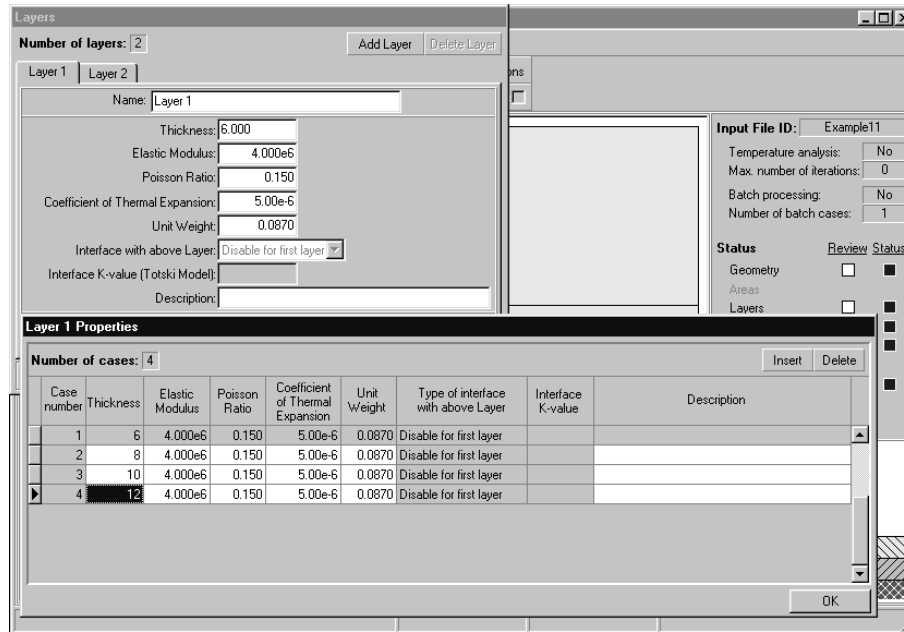

Figure E11-3: Edit Inputs for the Layers Module (continued)
- Step 6: On the layer 1 properties panel click **Insert** three times to add three additional cases, and then type the PCC thicknesses as identified in the problem statement. (see Figure E11-3)